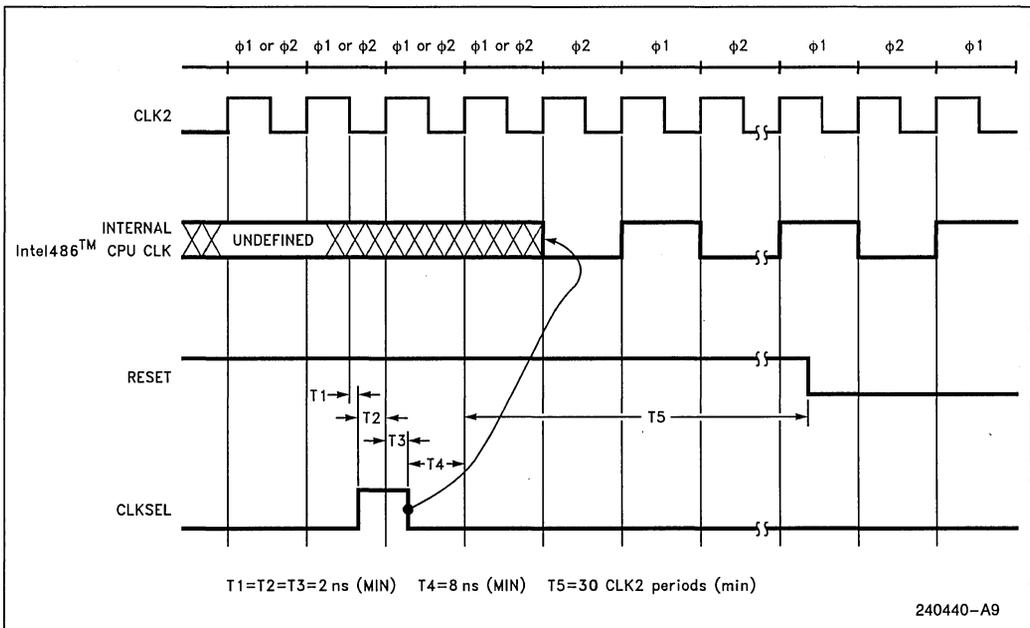

Figure 15.5. CLKSEL Timing Definition during Power-Up Reset
Figure 15.5 shows the detailed timing definition of this pulse. The pulse on CLKSEL pin is only required during power-up reset. During all other times including warm resets the CLKSEL pin should be driven low and must be free of spikes or glitches. After the power-up reset, the system must track the phase of CLK2 at all times including during warm resets so that the input/output signals can be sampled at the appropriate clock edge. The phase relationship is described in the next section.
1. Frequency can be changed at least 8 clocks after satisfying t₄ (see Figure 15.5). The system can be started at a lower frequency and after satisfying the CLKSEL pulse specifications, it can be operated at the required speed.
CLKSEL	See Figures 15.4 and 15.5 for details on this signal. Figure 15.5 shows minimum timings required for the proper operation of the CPU. The pulse on CLKSEL can be of any length as long as the minimums are satisfied and the transitions from low to high occurs at the clock edge shown.